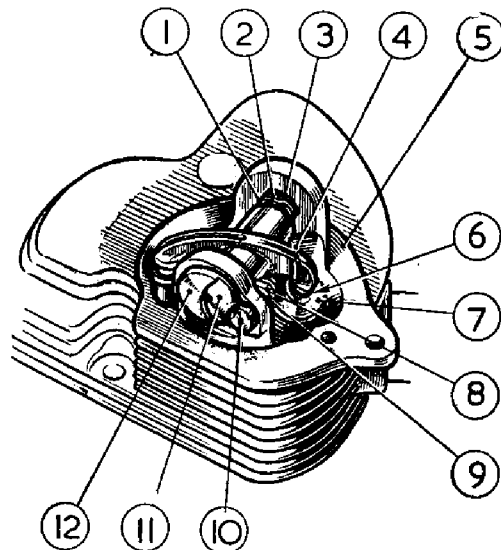

FIG 4
Insert a spoke, or stiff wire through plug hole to ensure the piston is exactly on T.D.C. by rocking the engine backwards and forwards. Slack off slightly the nut (8) (Fig. 4), turn the rocker spindle (12) to raise the rocker away from the valve (there is a slot in the spindle end).
**To remove the valves.** First remove rockers from cylinder head (see Fig. 4). The importance of correctly locating the valve spring seats is stressed, the wide face of the seat abuts against the cylinder head. Reversal will make the springs coil bound and cause damage to the valve gear. Proceed by removing the rockers (see Fig. 4 for assembly sequence). If a valve spring compressor is not available, use a wood block 2" in cube to support the valve with the head on a bench.